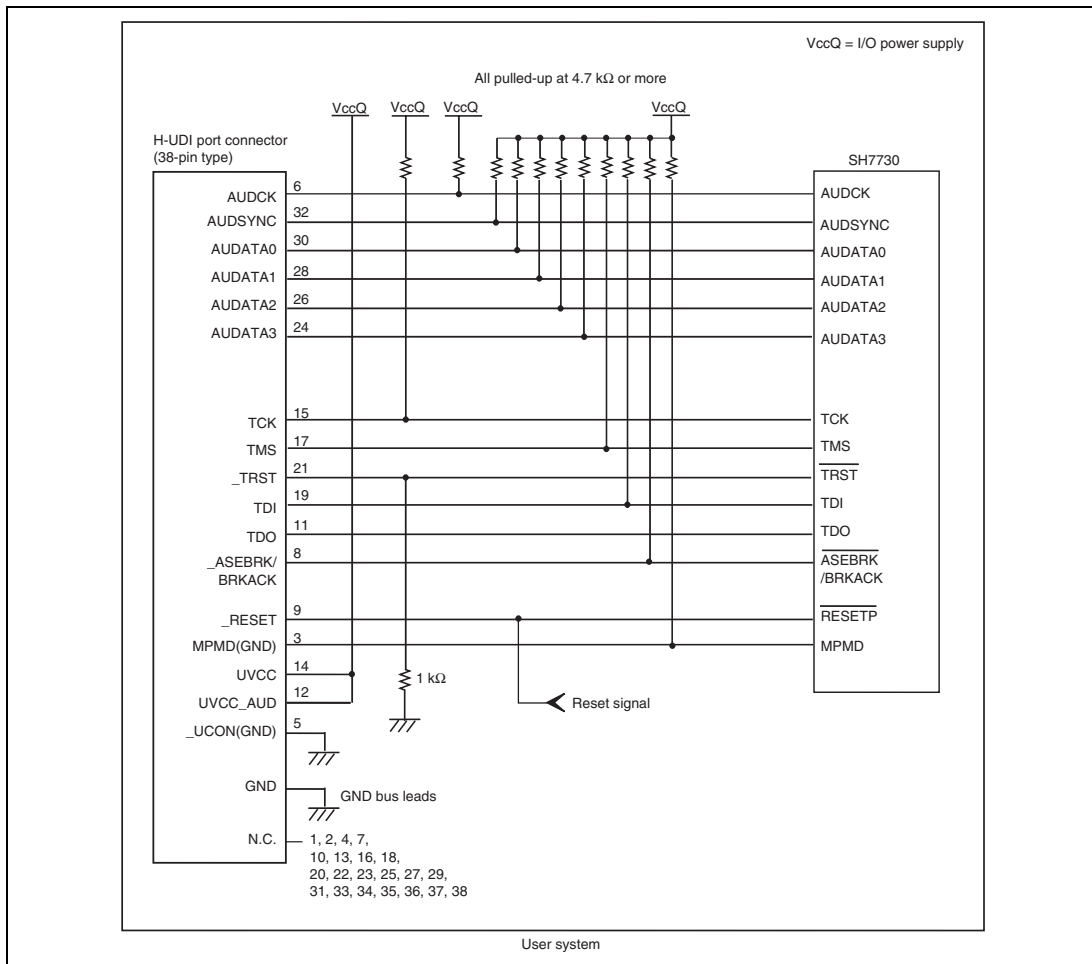

Figure 1.2 Recommended Circuit for Connection between the H-UDI Port Connector and MPU when the SH7730 E200F Emulator is in Use (38-Pin Type)
Figure 1.2 shows a recommended circuit for connection between the H-UDI port connector (38 pins) and the MPU when the emulator is in use.
- (1) When the emulator is used: MPMD = 0
- (2) When the emulator is not used: MPMD = 1Figure 1.2 shows an example of circuits that allow the MPMD pin to be GND (0) whenever the emulator is connected by using the user system interface cable.